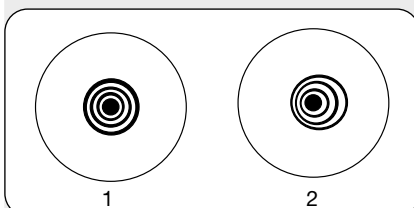

Fig. 32: correct (1) and incorrect (2) collimation.
5. Slowly "move" the image out of focus until you see several circles around the center of the star. If steps 1 to 3 are performed correctly, you will see concentric circles (centered to each other) (1, Fig. 32).
If the device is not carefully collimated, you will discover eccentric circles (2, Fig. 32). Adjust the three collimation screws on the primary mirror housing until the circles inside and outside the focus are concentric.
It is only important that at the end of the primary mirror collimation the counter screws are tightened one after the other with a lot of feeling for several times. Because they now hold the primary mirror tilt-free in the optimally determined position in the primary mirror cell. Always check the collimation image (Fig. 32) (also called diffraction pattern).